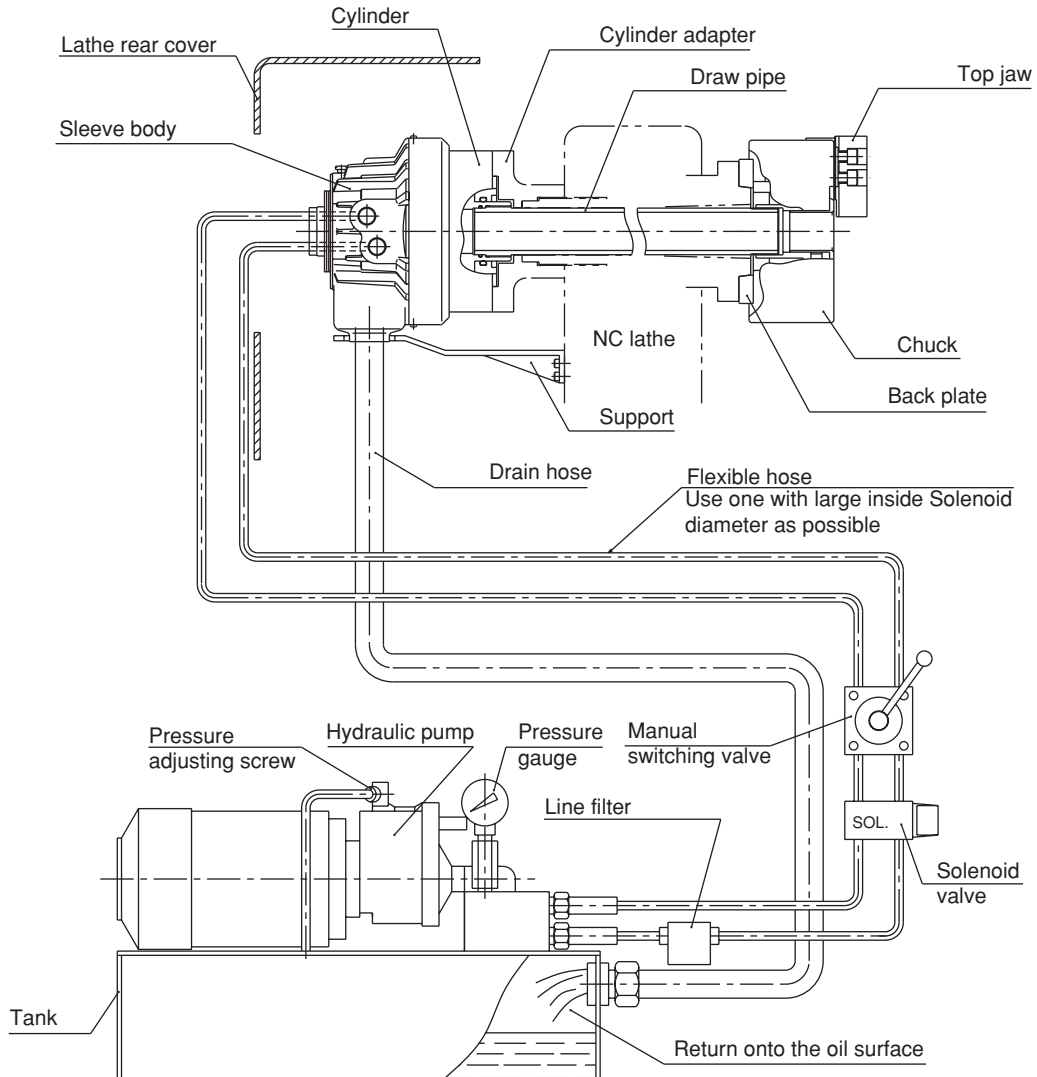

Fig. 14
- The end of the hose is physically above the oil level. (Refer to Fig.14)
- Keep the dimension e and the dimension f in Fig. 14 for the draw pipe and a material with the tensile strength 380MPa (38kgf/mm²) or more must be used.